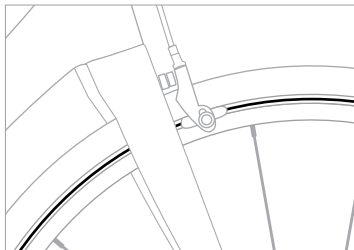

Figure 2.1. Aluminium rim wear-indicator.
- A shallow groove around the circumference of the rim (Figure 2.1). If the groove is no longer visible in any spot, replace the rim.